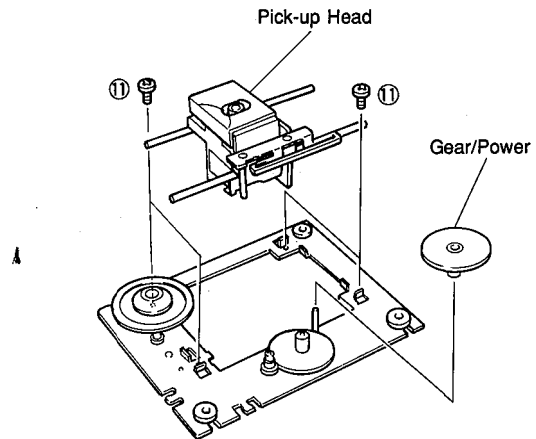

Fig. 6
- c. Pull out the Gear/Power as shown in Fig. 6.
- d. Remove 4 screws (⑪) and then remove the Pick-up Head as shown in Fig. 6.